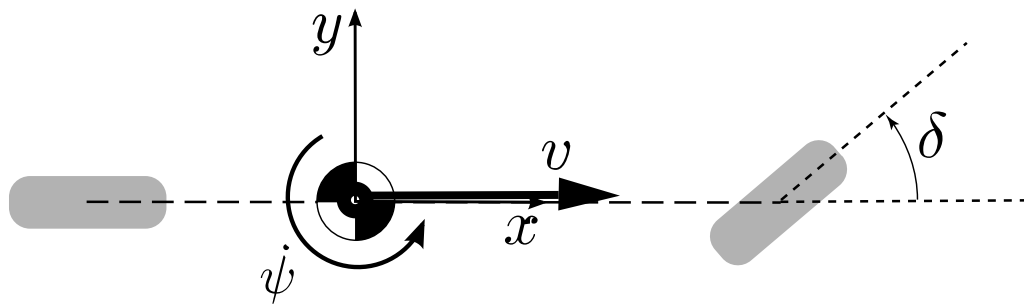

Figure 5: Bicycle model defining steering angle δ (drawn in positive direction after “ISO 8855” coordinate system $\rightarrow z$ up) and speed v .
DS 2.2 Beside RES messages, see Table 4, the messages defined in Table 2 must be provided to the Data Logger (DL) with a cycle time of 100 ms each. Steering angle δ and vehicle coordinate system is defined in Figure 5.